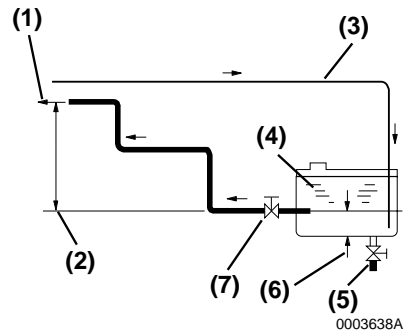

Figure 1
Shown is a typical installation of a boat fuel system. Fuel supply (**Figure 1, (2)**) and return (**Figure 1, (4)**) lines connect to fittings at the engine.